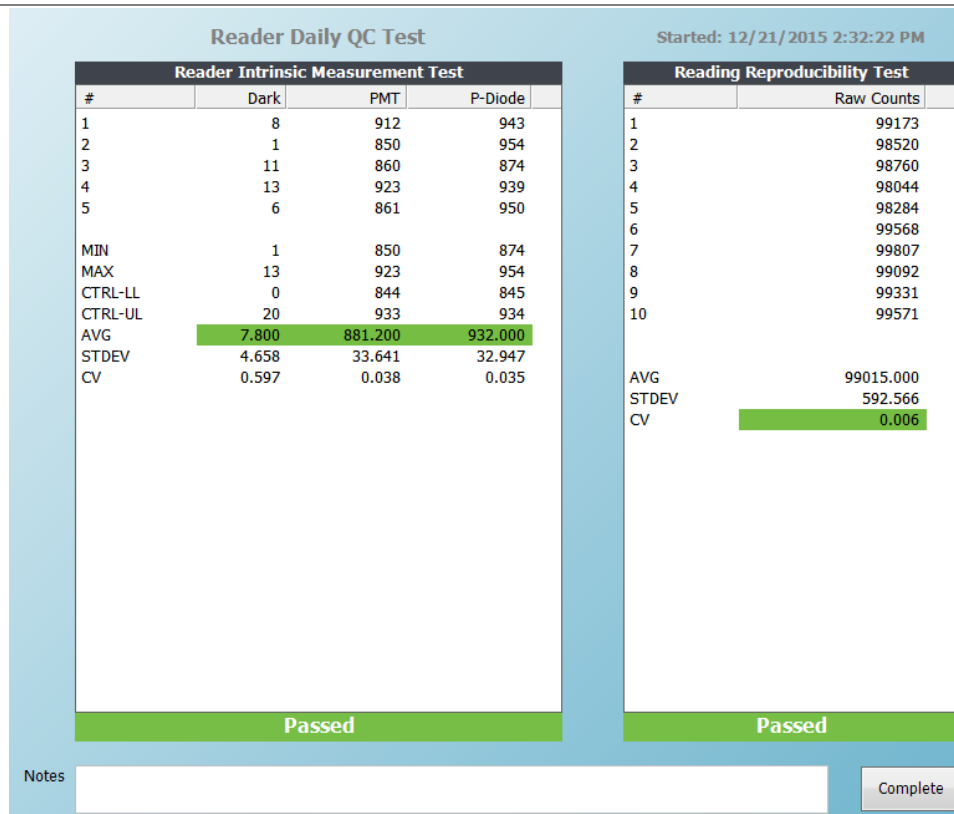

Figure 5-2: Daily QC Tests – Passed
- STEP 6:** Click OK to start the Reading Reproducibility Test. When it is complete, click OK on the Reader Daily QC Test results prompt. The report will be updated with a colored bar reflecting the test results (Figure 5-2).